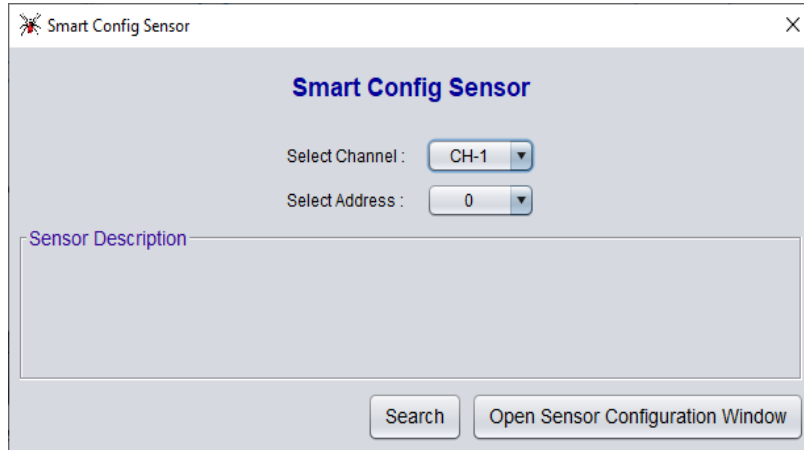
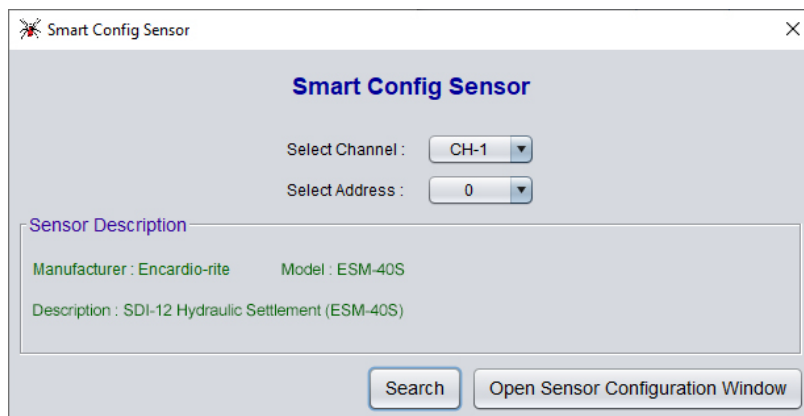

Figure 7-5
Figure 7-6 Smart config sensor screen
6. The screen as shown in figure 7-5 will appear. Select channel number at which the sensor is connected. Select the sensor’s address and click on “Search” button to find the sensor on SDI-12 Bus. It will show the sensor details as shown in figure 7-6. Press on “Open sensor configuration window” to open configuration screen.